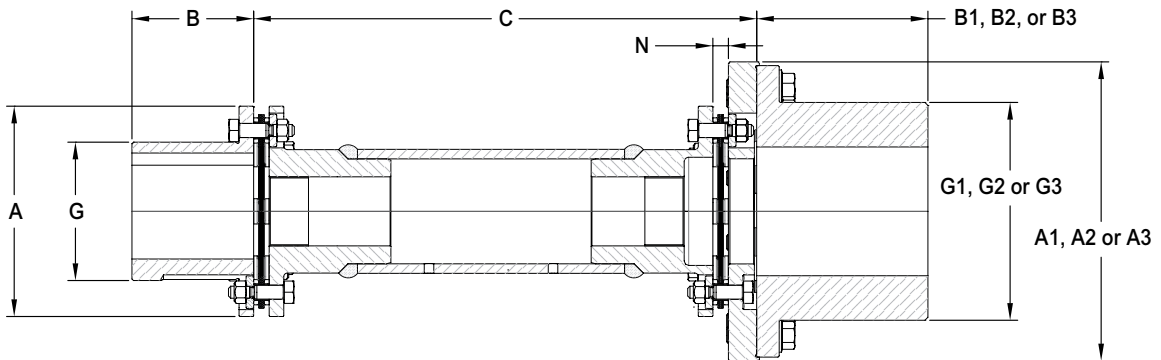

Figure 10 – Oversize Hub with Adapter
9.2. Verify that the hubs have been mounted to provide the correct "C" dimension shown in Figure 10. The "C" dimension is the distance measured between the faces of the two hub flanges. Note that the "C" dimension does not include the narrow extended length of material that provides the pilot on the outside diameter of the hub when oversize hub and adapter are used.